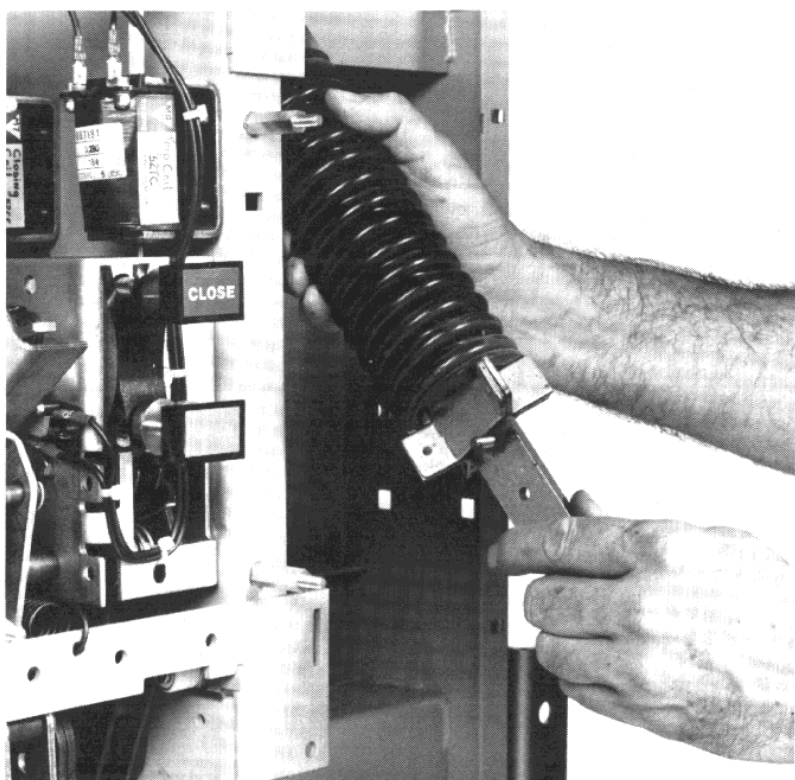

Figure 12: Removal of Closing Springs
If the spring force is not held by the pins, remove the pins and finish charging the springs. Then close and open the breaker (as in step 1) and repeat steps 3–6. When performed correctly, the springs will be slack on the mechanism and can be safely removed (figure 12).
7. Remove the snap ring from the crank end of the closing spring. Slide the spring assembly toward the fixed end and then off the shaft (figure 12). Remove both left and right closing springs. Note the position of washers and bushings so they can be placed in the same order and position when reassembled.